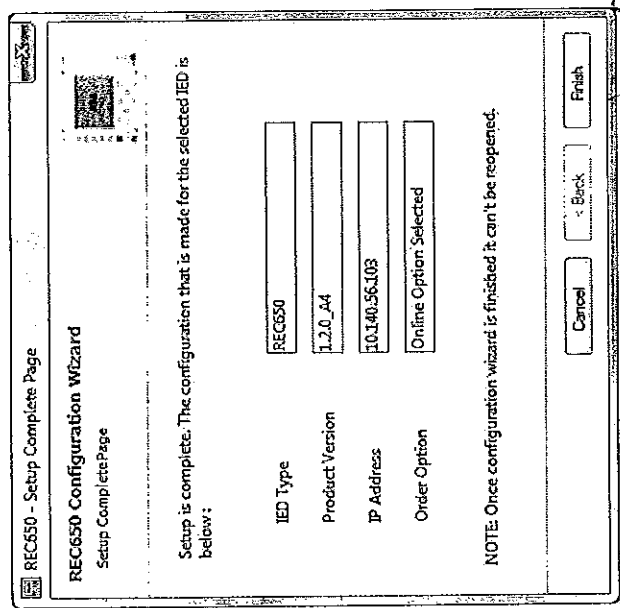

Figure 23: PCM600: IED Setup completion wizard
*IED Type, IED Version and IP Address of IED* see Figure 23. It is possible to *Cancel* the insertion or confirm the configuration and do the insertion with *Finish*